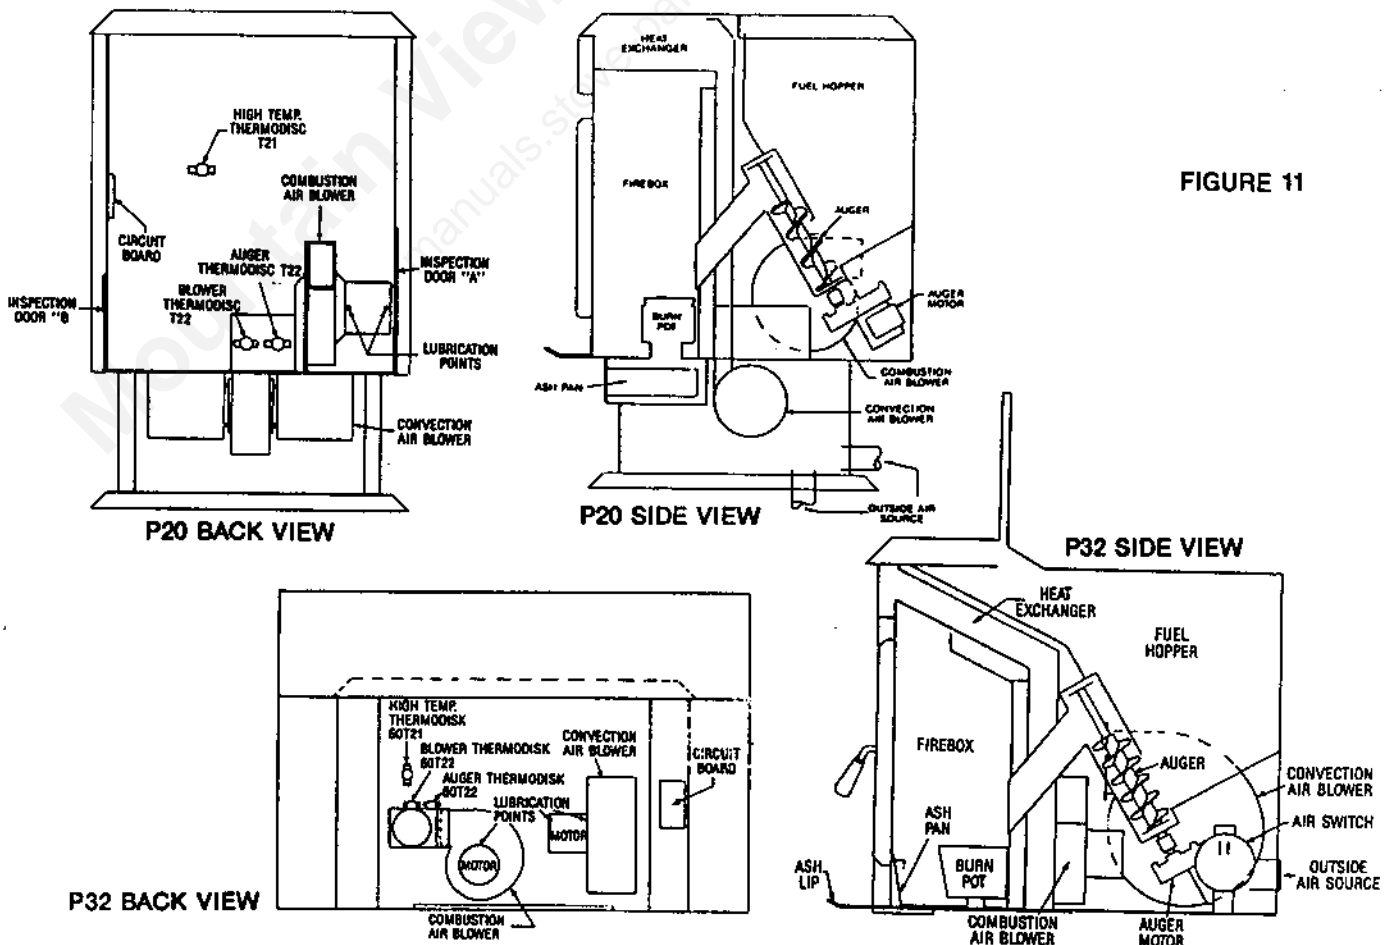

FIGURE 11
Both blowers should be removed once per year and brushed clean. The combustion blower (see Figure 11) is accessed through the service door on the lower left side. The convection blower is accessed from the pedestal rear. While out the combustion blower can be oiled (see Section 4.4b) **NOTE: Be careful when cleaning to not dislodge balancing clip or bend fan blades.**
b. Oiling — Blower manufacturers suggest oiling annually. See figure 11 for lubrication points. Use SAE 20W oil. Limit to one or two drops. **NOTE: P20 convection blower should not be oiled.**
When your stove acts out of the ordinary, the first reaction is to call for help. This guide may save time and money by enabling you to solve simple problems yourself. Problems can be due to only four factors: 1) poor fuel; 2) poor operation or maintenance; 3) poor installation; 4) factory defect. You can usually solve those related to 1 and 2. Your dealer can solve those in 3 and 4. Refer to figure 11 to help locate indicated parts. **REMINDER: Pull plug before servicing, unless otherwise instructed.**